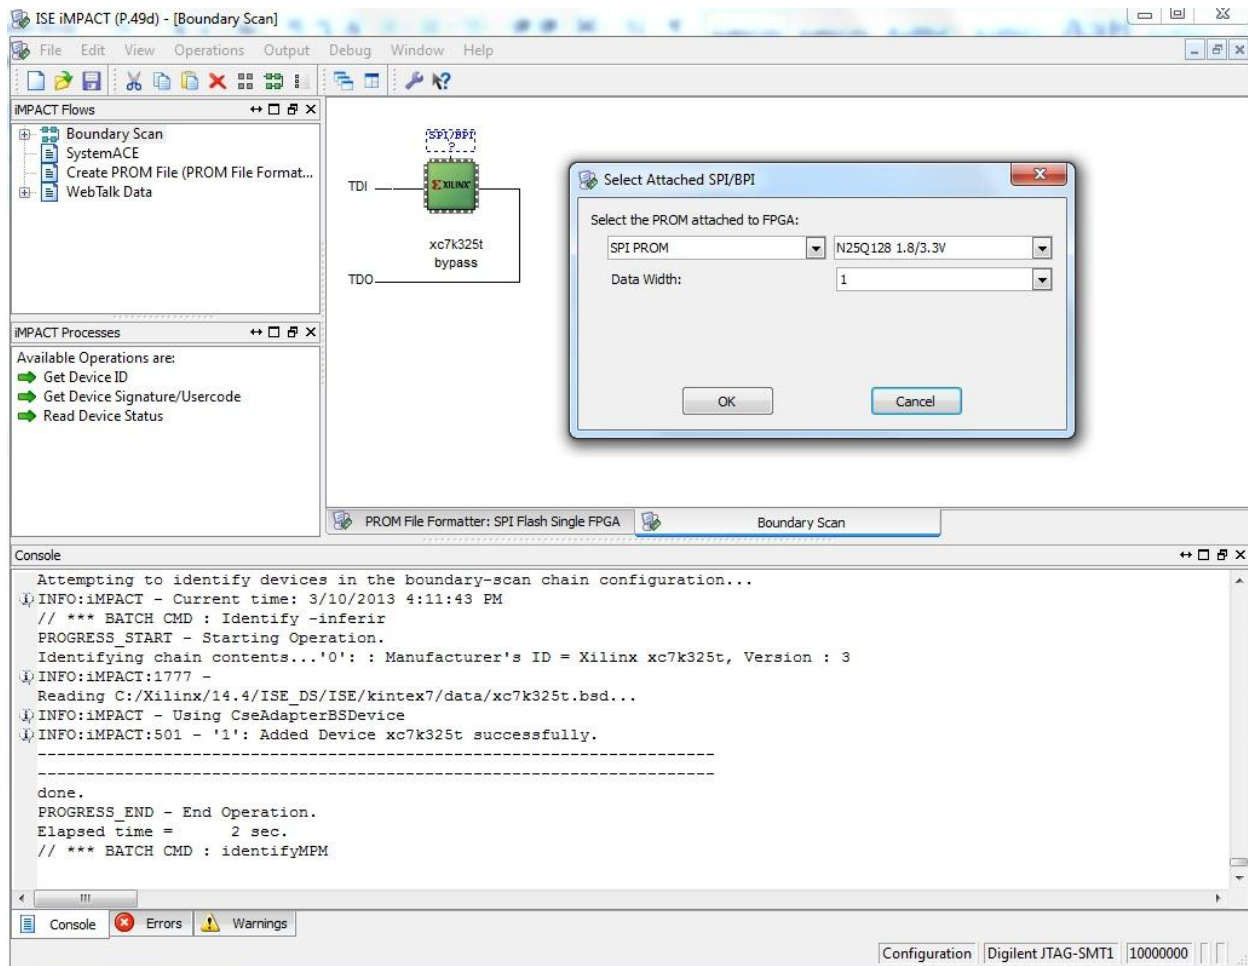

Figure 6
7. **Add** the generated MCS file to SPI flash (figure 6), and click **OK**.